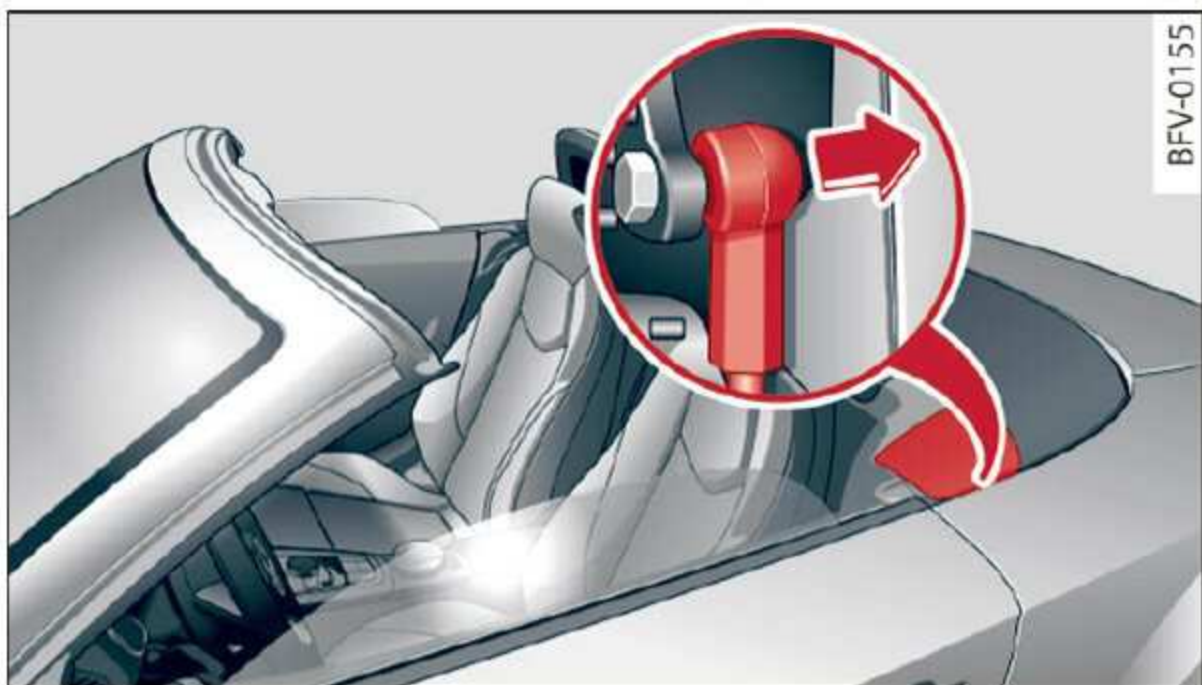

Fig. 30 Closed covers
- ▶ Disconnect the push rod from the ball head ⇒ *fig. 30*.